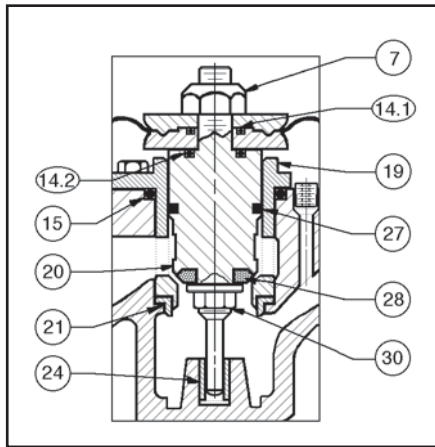

Figure 2: Body Sizes
1. Body Sizes 1/2" – 2". (See Figures 2 thru 5):
- b. Place plug into a vise using the bars of a. above positioned on "flats" located on plug (20) to prevent vise jaw marks from direct surface contact with the plug (20). Orient with diaphragms on topside.
- c. Sizes 1/2" – 1": Remove diaphragm locknut (7) by rotating CCW.